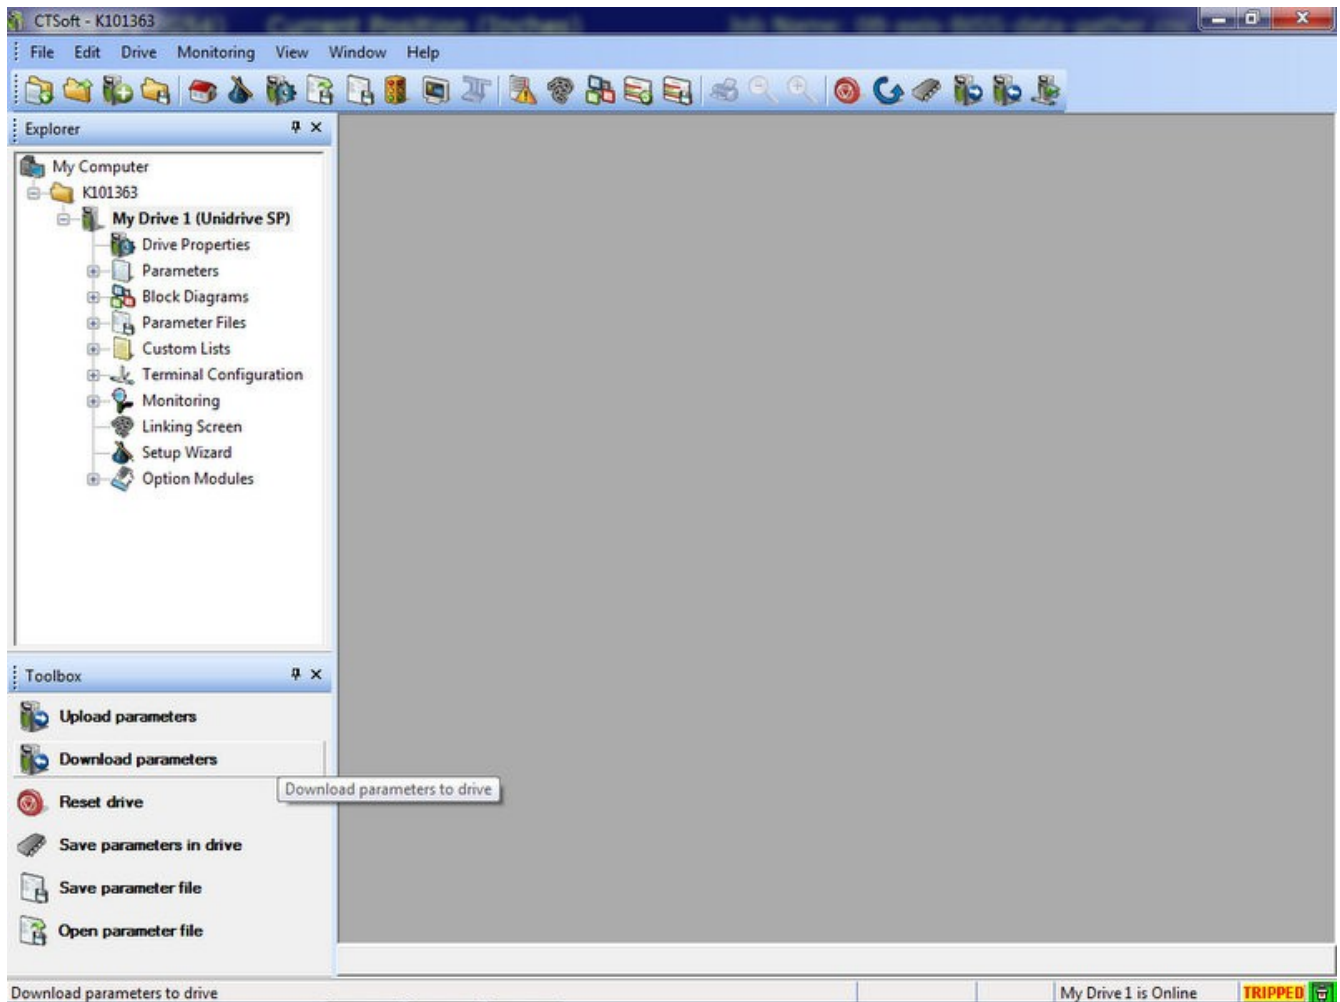

Figure 12
10. Check to see if the bottom right hand corner has changed from red to green and says that the drive is online. Note that it will say tripped next to it. See figure 12.